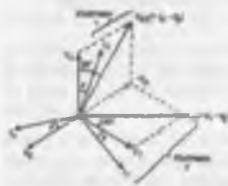

Figure 20.16
- (b) The phasor diagram for the two-wattmeter method for a balanced load having a lagging current is shown in Fig. 20.16, where $V_{RB} = V_R - V_B$ and $V_{YB} = V_Y - V_B$ (phasorially).